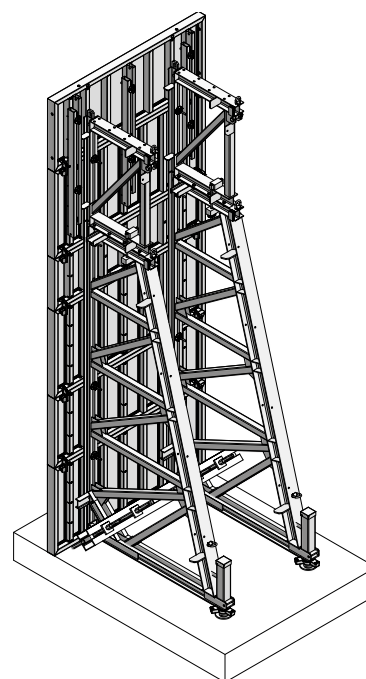

Fig. 11.2 Up to a formwork height of 6.70 m:
- Up to 6.70 m – One height extension (Fig. 11.2)